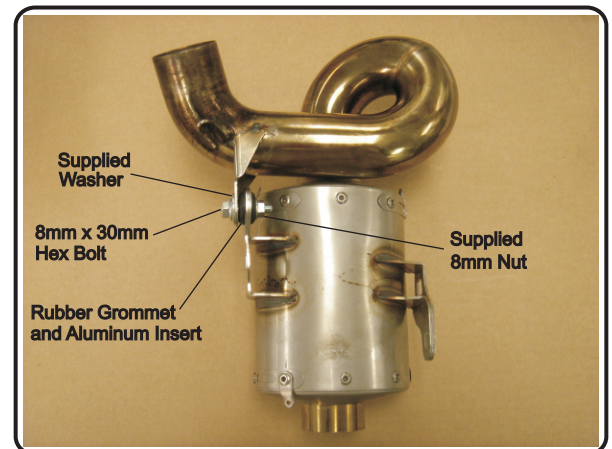

Fig. 6
- 11 Bolt oval muffler to stock muffler mount location using stock muffler mount bolts, supplied large washer, supplied nuts, rubber grommet, small aluminum spacer, and springs (see Fig. 6 and Parts Diagram on page 6). Do not torque at this time.